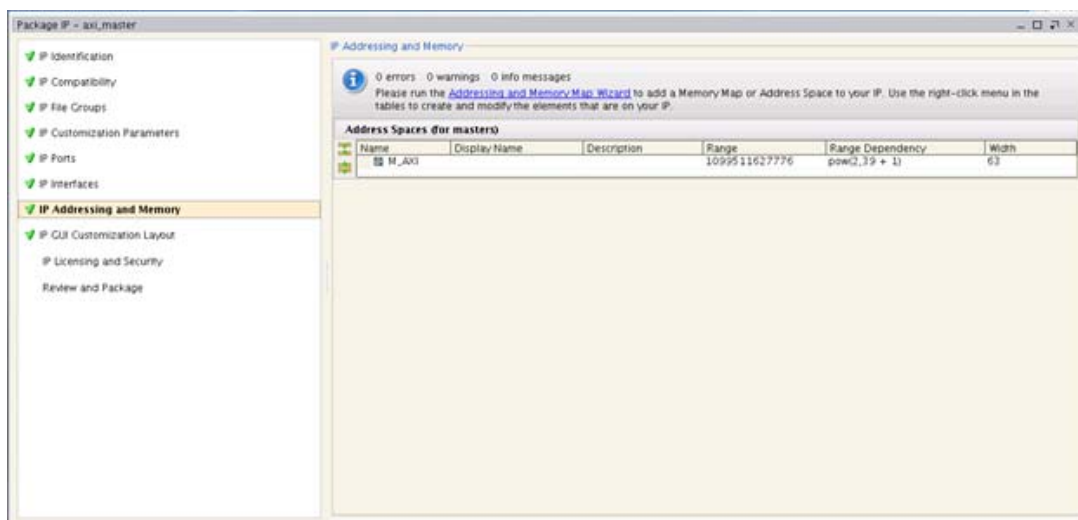

Figure 21: IP Addressing and Memory for AXI4 Master
6. Select **IP Addressing and Memory**. The AXI4 Master has a 40-bit AxADDR port on the M_AXI interface (Figure 21)